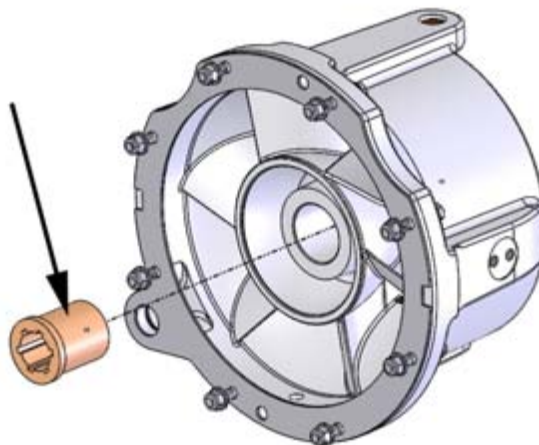

Figure 29. Disassembling a water-lubricated rear end bearing
2. The water-lubricated bearing is pressed inside the stator. Use an extraction tool to remove the water-lubricated bearing (figure 29).